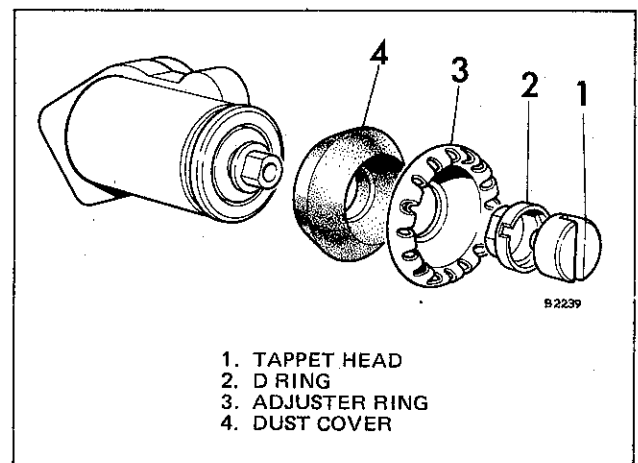

Fig. 4 Wheel Cylinder—13 inch unit
Referring to Fig. 4, remove tappet head (1), "D" ring (2), adjuster wheel (3) and dust cover (4).